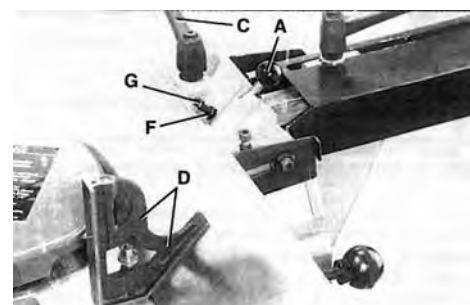

FIGURE 43
5. Loosen lock handle (C) Fig. 43, pull out and turn plunger (A) and tilt fence out as far as it will go. Then tighten lock handle (C).
6. Using square (D) Fig. 43, check to see if the fence is at a 45° outward angle from the table, as shown.
7. If an adjustment is necessary, loosen lock handle (C) Fig. 43. Loosen lock nut (F) and turn adjusting screw (G) until fence is tilted 45° outward. Then tighten lock nut (F).